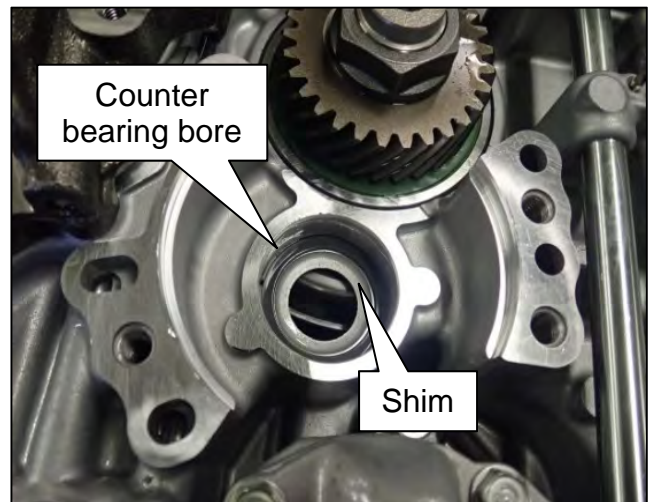

Figure 84
58. If the bearing is judged to be OK, remove the shim (Figure 84) from the bottom of the counter bearing bore.